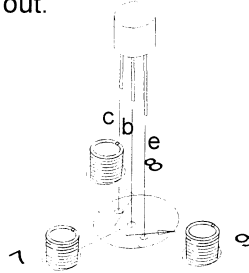

Figure 7
Now, look at the Transistor, with the flat side toward you and look at Figure 7.
Make a mental note of the position of each lead, E, C and B. (See Figure 7.)
- Mount a Transistor marked 9014 between 7, 8 and 9. **Position it so the flat side is toward spring 11.** Insert the leads through the holes provided. On the bottom, connect the upper lead to 8, the center lead to 7 and the lower lead to 9. (See Figure 7 and 8.)
- Mount another transistor between 8, 10 and 11. **Position it so the flat side is toward 16.** Insert the leads through the holes provided. On the bottom, connect the C lead to 10, the center lead to 8 and the E lead to 11. (See Figure 7 and 8.)
1. Be sure the transistor leads are connected properly. Study Figure 7 and make sure each lead is properly connected.